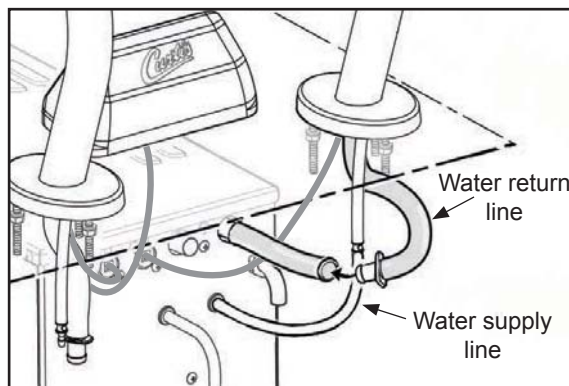

Figure 12 - Attaching the Water Hoses
- 21 Link the brew heads to the water tower by attaching the water return lines. These are the two larger diameter flexible silicone tubes that come from behind the water tower. The matching return lines from the spray head assemblies will have a straight fitting slipped into the end of the tube. Join the return line tubes together using this fitting. Make sure they are correctly oriented as shown in Figures 12 and 13.
- 22 Locate the two (2) 1/4 inch diameter water supply lines behind the water tower. Shorten them to minimize length when connected with the matching 1/4 inch tubing coming from the bottom of the brew head assemblies.
- 23 Insert the water supply tubes from the back of the water tower into the barbed connector on the supply line tube fittings from the brew head assemblies. See Figure 12.